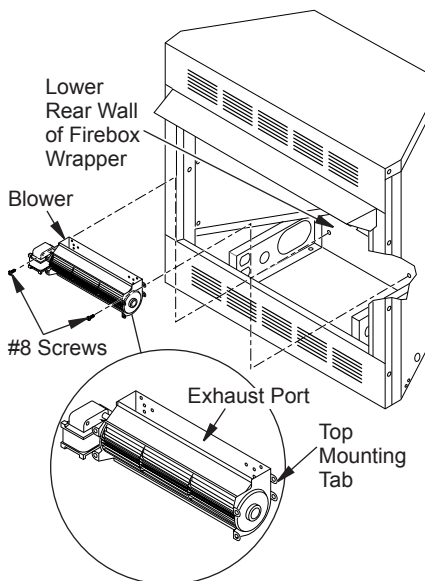

Figure 3 - Mounting Blower to Firebox
7. Place the blower against lower rear wall of firebox outer wrapper with the exhaust port directed upward. Align the holes in top mounting tabs of blower with holes in wall of wrapper (see Figure 3, page 4). Using two #8 screws provided, mount blower and tighten screws firmly.